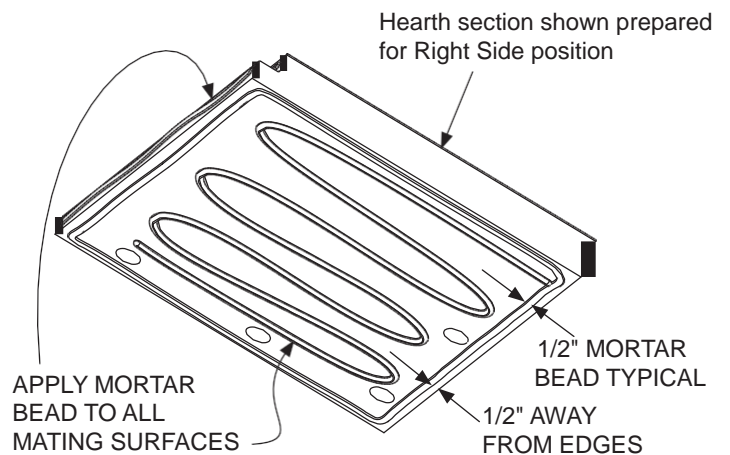

Figure 36 - Preparing Hearth Base
2) Mix a batch of mortar and prepare Right Side Hearth bottom surface to be bonded as shown in Figure 36.